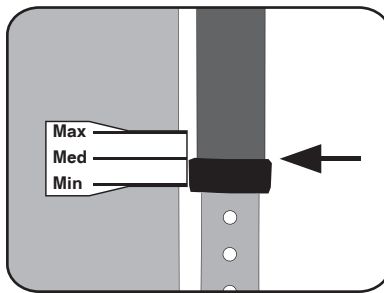

Fig. 1: Downhaul until the calibration mark lines up with the bottom of the mast.
4) Downhaul your sail until the appropriate calibration mark lines up with the bottom of the mast (fig. 1). For example, if you are setting for medium wind, you would downhaul until the “Med” line, lines up with the bottom of the mast.